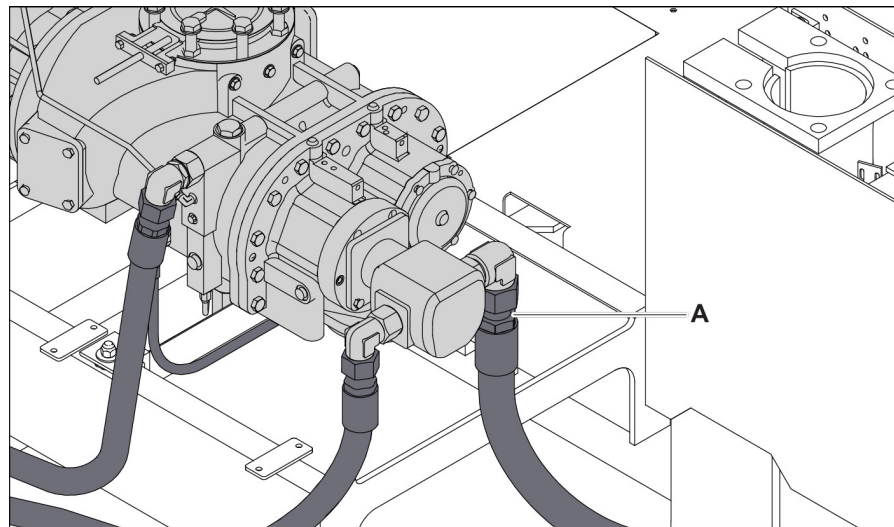

Figure 4
9. Disconnect the hump hoses (Figure 4, item A) and remove the piping from the Air Cleaner Assembly and the compressor inlet.